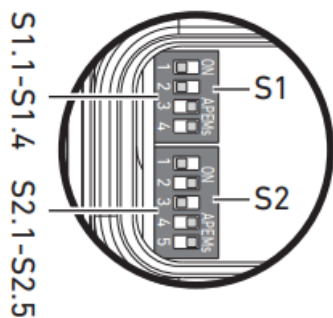

Fig. 3: S2 DIP switch
2. Move the S2.5 DIP switch to the desired position (see also Fig. 3: S2 DIP switch).